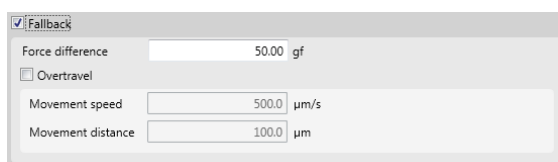

Figure 18: Fallback enabled (checked)
**Along the wire** means that the hook is aligned with the wire. Figure 18 picture 1 and 2 show this situation. It is important that the hook can rotate under the wire. If the box in front of **Lower limit** is checked the stage will first move to the lower limit. The rotation point of the hook should be on a safe distance from the wire where the hook can still rotate under the wire after moving down. If **Lower Limit** is not checked the lower limit is not used and the hook will rotate on the current position. Make sure to have a starting position on the correct height to safely rotate the hook under the wire. If the wires are on different heights unchecking the **Lower Limit** makes it easier for the operator to perform the test. In most cases the lower limit is used.